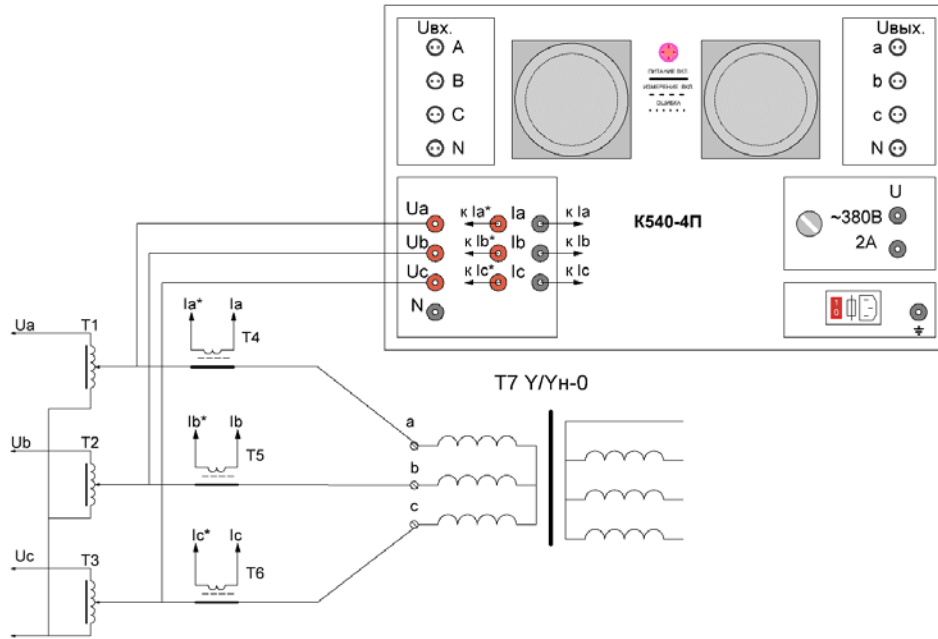

Figure 6.12
2. At P_{sc} measurement, drive voltage (400V) is usually not involved and, in most cases (T4-T9 transformers), is not necessary. In this case, drive voltage and current are measured as shown in Figure 6.12.
6.1.5.4 Supply power to T1, T2, T3 transformers (Figure 6.12) and activate the “Start” field. At that, AB, BC, and AC lines show linear/phase drive voltage, while “ $K\phi$ ” line shows the form factor of this voltage.
6.1.5.7 Connect the test transformer to excitation circuit (Figure 6.12, points A, B, and C) and supply power to T1, T2, and T3 transformers. At that, control the symmetry of drive voltage by lines UphaseB, UlinB and, if necessary, adjust it – by turning the knobs of respective T1, T2, and T3 transformers.